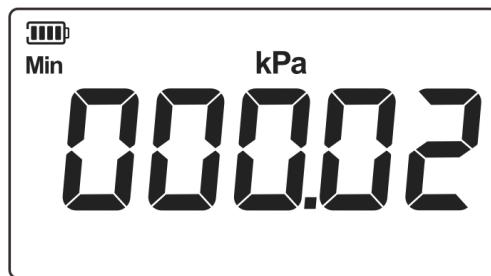

Figure 15 Lower limit calibration
2. Start lower limit calibration, as shown in Figure15. The display area shows the measured pressure value, after the pressure stabilized, short press Enter button to confirm.